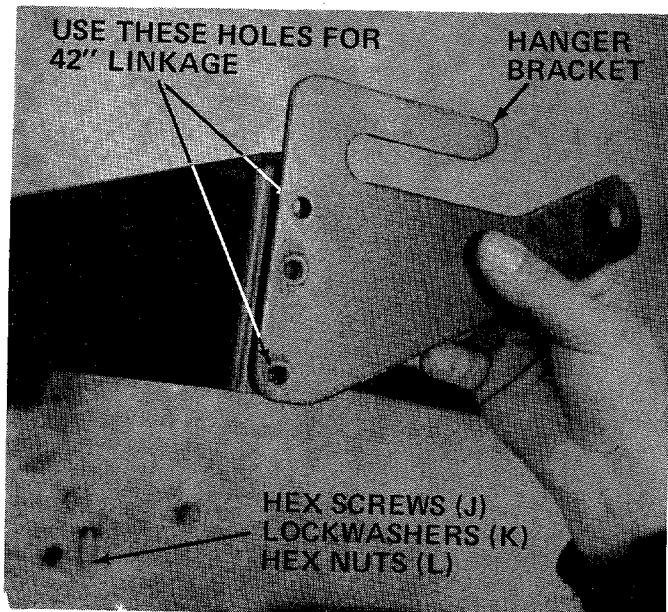
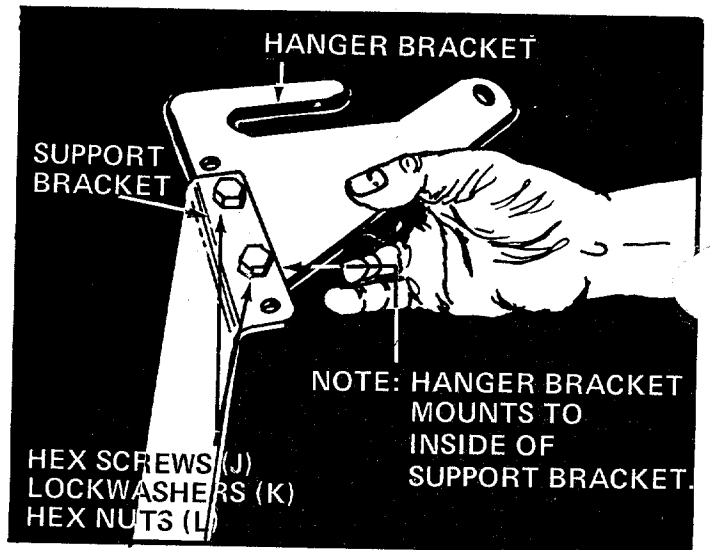

FIGURE 13
FIGURE 14A-Used on Hydrostatic Tractor Only.
- Assemble the hanger brackets to drive shaft, using four hex screws (J), lockwashers (K) and hex nuts (L). See figures 13 and 14 to determine hole locations required. For 42" or 50" linkage kits. See figure 14A for hydrostatic tractors only.